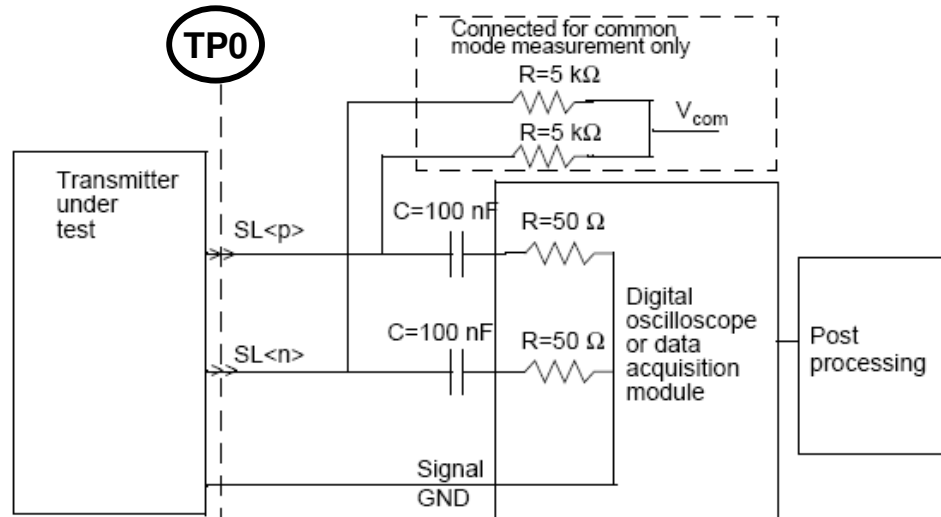

Figure 85–X—Transmit test fixture at TP0
- Replace 85.8.3.1 Test fixtures with Figure 85–X—Transmit test fixture at TP0.